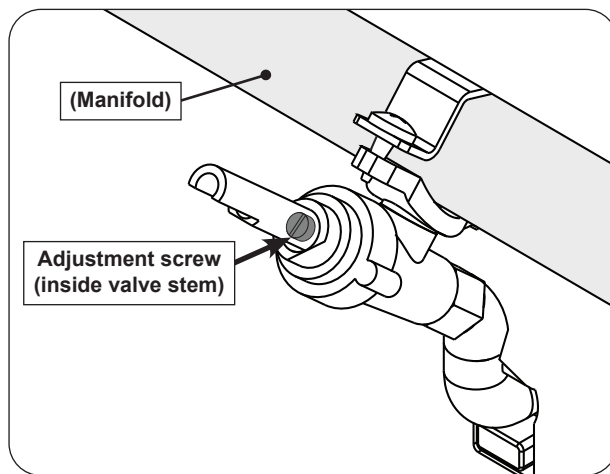

Fig. 52-1 Valve adjustment screw location
4. Locate the FLATHEAD adjustment screw found inside the valve stem (see Fig. 52-1).